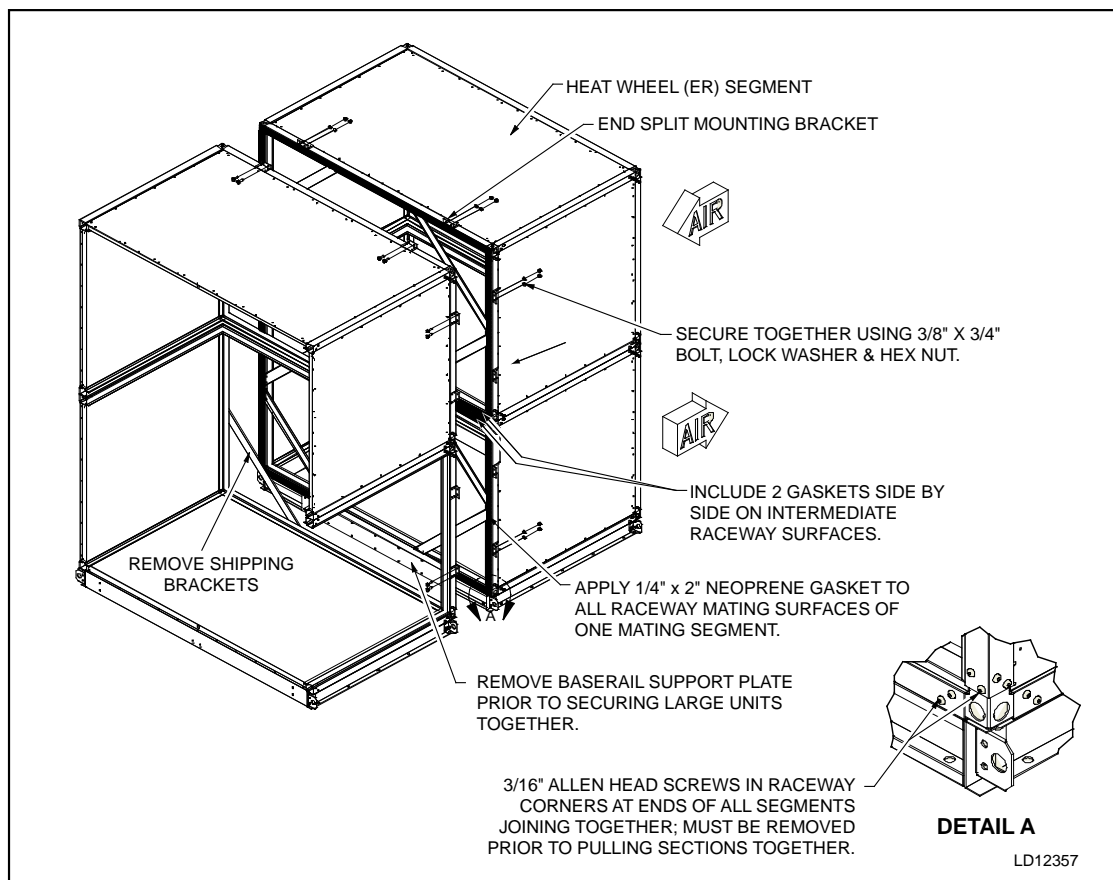

FIG. 2-33 – ASSEMBLY OF END CHANNEL SHIPPING SPLIT (ENERGY RECOVERY WHEEL SHOWN)
The assembly is the same regardless of what sections are being connected together. The vertical Energy Recovery Wheel shown in Fig. 2-33 is a common example
3. Remove screws in raceway corners at ends of all segments joining together (as shown in Detail A of Fig. 2-33).